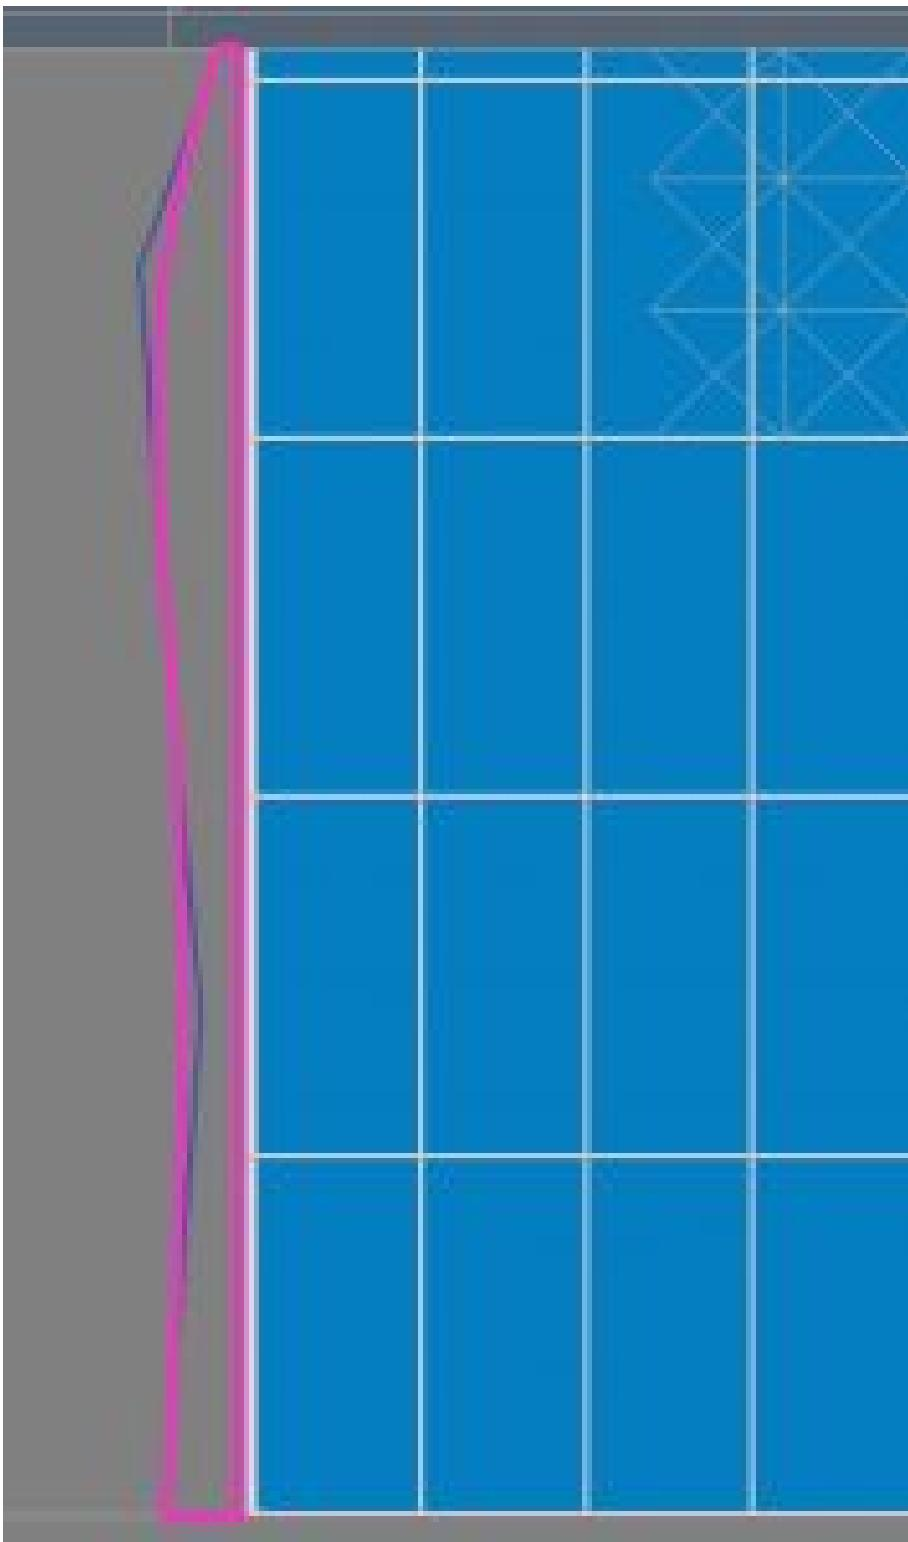

Figure 7.16 Profile drawn on Reference plane: 1 shown in the East view
9. Use the Line tool and Spline tool to draw the profile shown in Figure 7.16